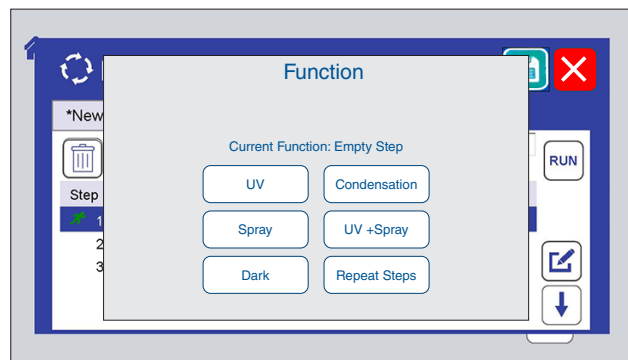

Figure 7: Functions are specified when adding steps to a cycle (Section 11.6.4).
- The operator can quickly create new cycles by specifying functions (Figure 7), or run any of the programmed cycles.